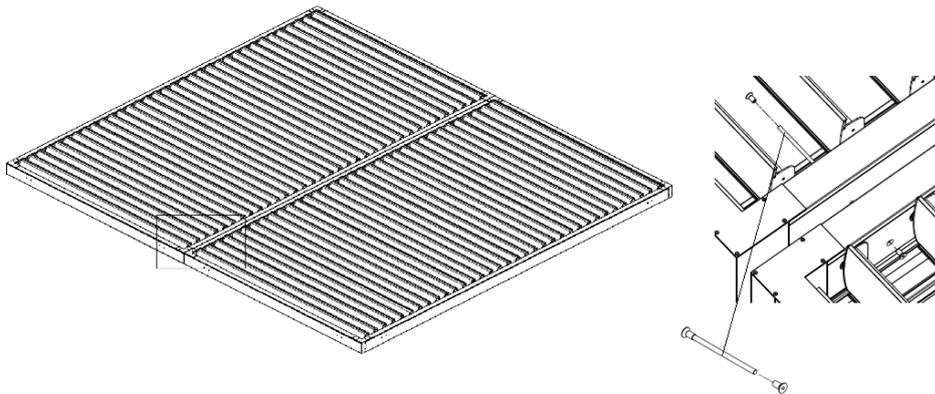

Figure 17
3. Screw an M8 cone nut with allen socket onto one end of the M8 pin until you can feel the resistance (fig. 17). Thread the pin through the mounting hole on the side of the beams. From the opposite side, screw on the second M8 cone nut with Allen socket (fig. 40). The tightening torque is 17 Nm.